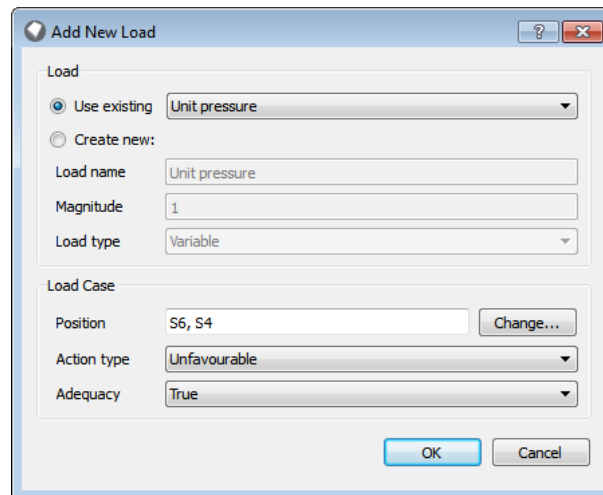

Figure 17.4: Adding a new Pressure Load in the **Loads Database**
- The **Add New Load** dialog will appear (see Figure 17.4). Here you can change the magnitude and fine-tune the positioning of the load.